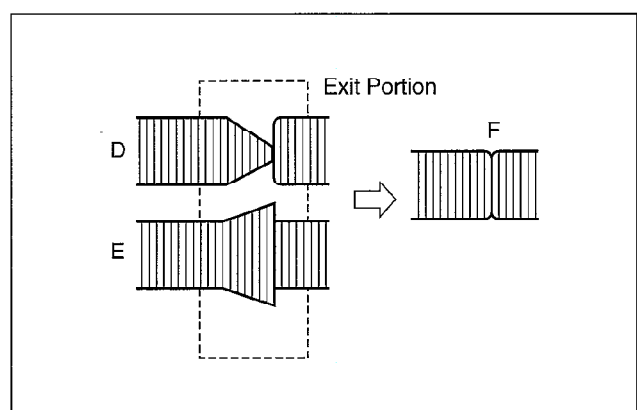

Fig. M8
(5) If the RF envelope appears like "D" or "E" in Fig. M8, then adjustment of the tape guide post (P3: Exit) is necessary.
(6) Adjust the tape guide post (P3) in the same manner as the P2 post so that the exit portion becomes flat as shown in Fig. M8 "F".